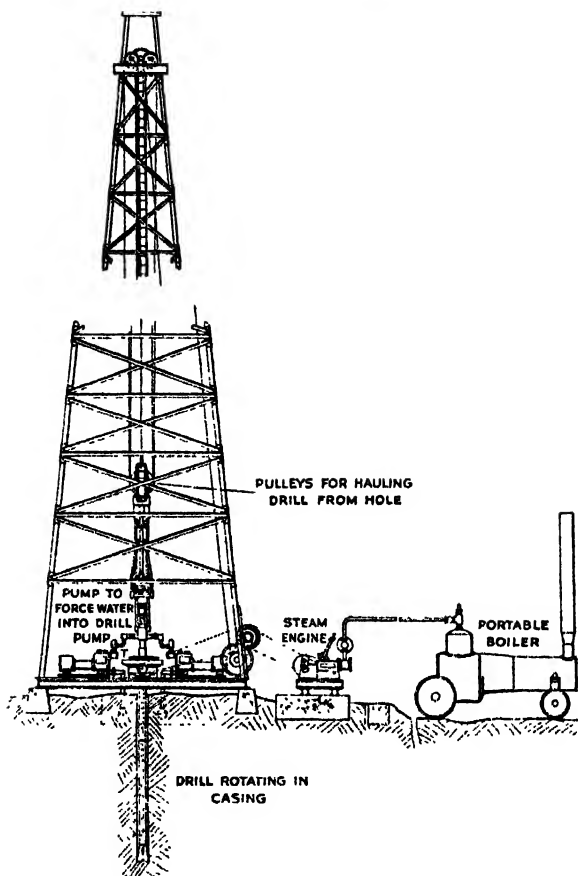

FIG. 124—Rotary rig for drilling oil-wells.
Most oilwells are now drilled by the rotary method (Fig. 124). A tall framework called a derrick is erected. This, the most conspicuous thing about an oilwell, is needed so that the drill stem can be hauled out of the hole by ropes going over pulleys at the top of the derrick. At the bottom of the derrick, is a rotating table (T) which is driven, usually by a chain, from an oil-engine or steam-engine.